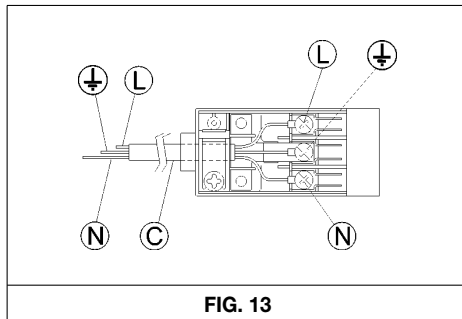

FIG. 13
- Fit the wires following figure 13, taking care of respecting the following correspondences: